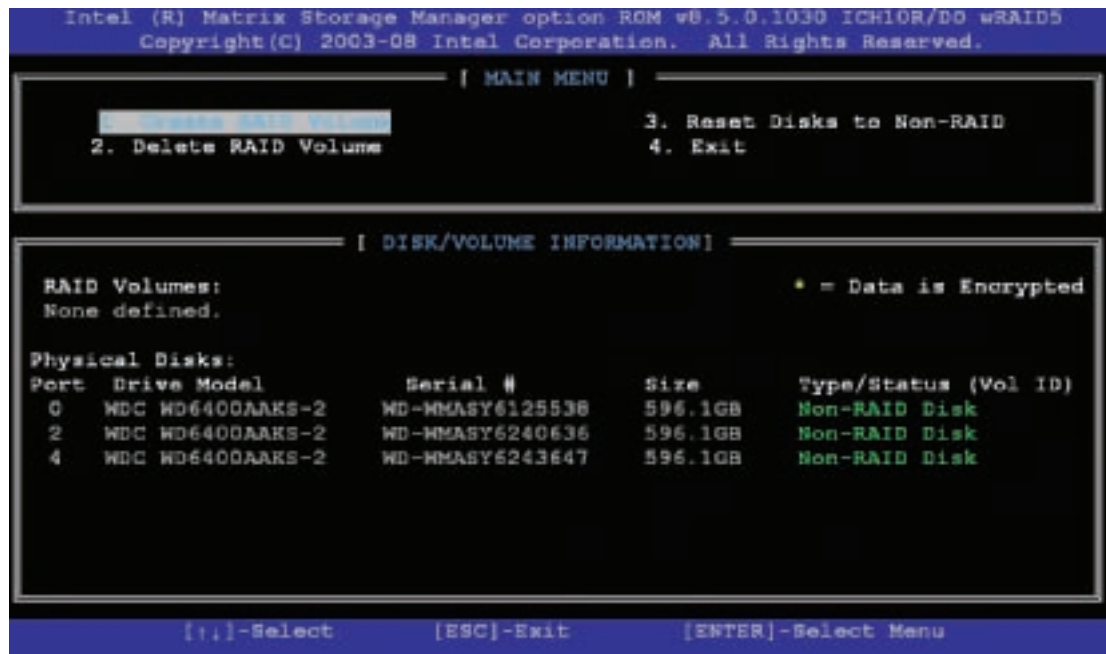

Figure 8-51 BIOS utility to configure a RAID array
3. Reboot the system and a message is displayed on-screen: “Press <Ctrl-I> to enter the RAID Configuration Utility.” Press Ctrl and I to enter the utility (see Figure 8-51).